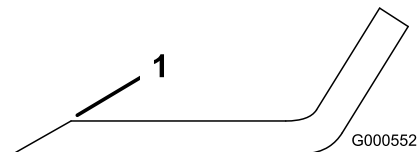

Figure 47
1. Use a file to sharpen the cutting edge at both ends of the blade (Figure 47).
Note: If the blade is not balanced, file some metal off the end of the sail area only (Figure 47).